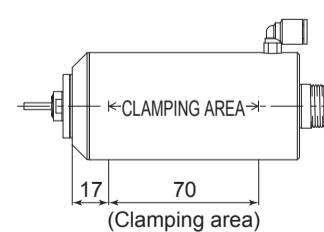

Fig. 7
- When mounting a Spindle, refer to the Clamping Area etched on the Spindle (Fig. 7).